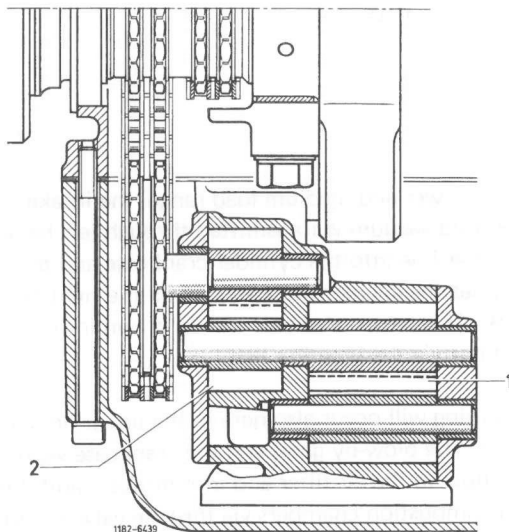

Fig. 92
This engine is provided with a dry sump lubrication. The gear type oil pump consists of an oil feed and oil return pump, which is attached to the crankcase and is driven by a duplex roller chain (Fig. 92).
To provide an adequate amount of foam-free oil in the oil reservoir under all operating conditions, the oil return pump (1) is of a larger size than the oil feed pump (Fig. 92). Its gears are almost twice as wide.